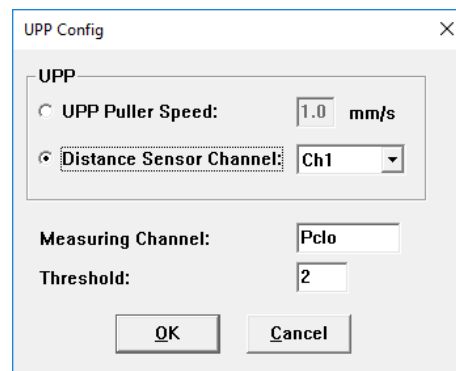

Figure 40: UPP Configuration Window
2. Select the Distance Sensor Channel option (Figure 40).